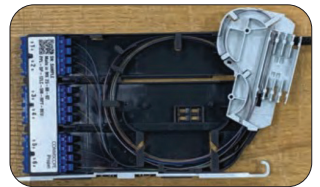

Figure 15
16. Line up the pegs on the cassette base with the mounting holes on the spool to finish routing. (Figure 15)